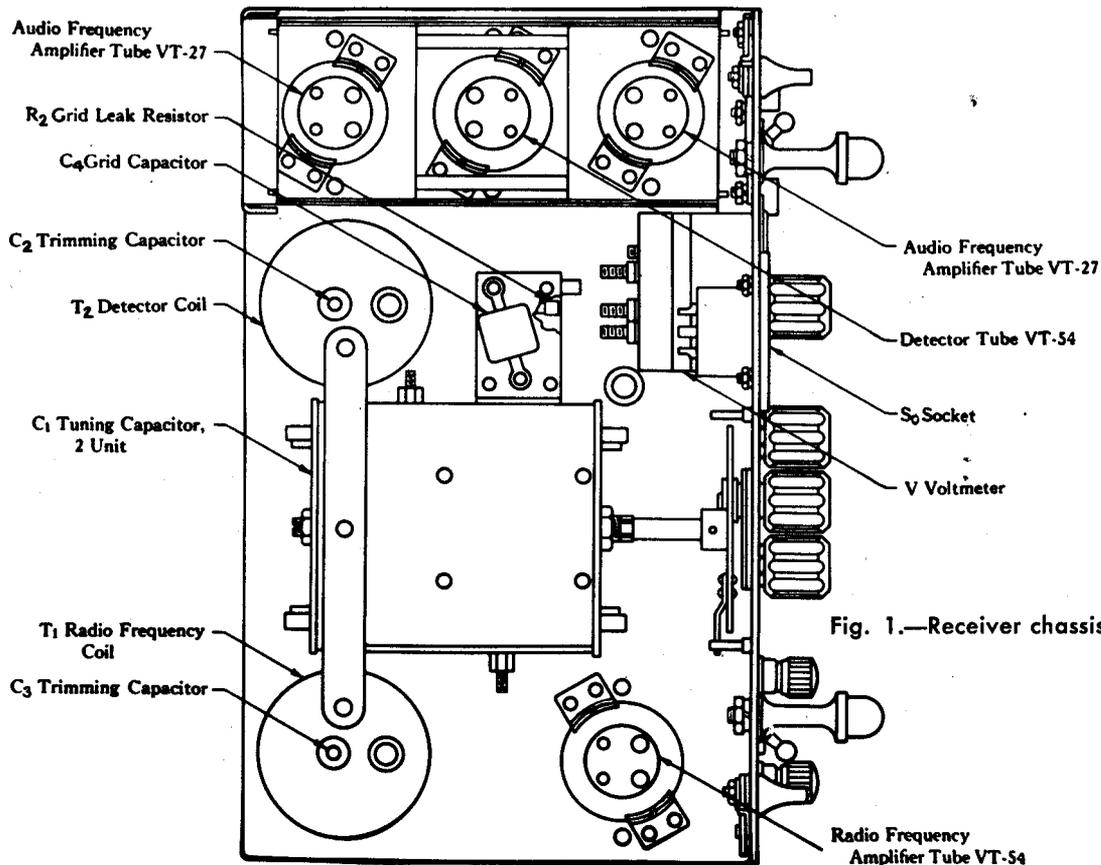

Fig. 1.—Receiver chassis, top.
**ALIGNMENT** : The radio frequency circuits of the receiver may be aligned on any incoming signal, but adjustment of the detector circuit requires an accurately calibrated signal generator. Set regeneration control at its optimum point (according to received signal). Set FREQUENCY dial at highest frequency and adjust the trimmer capacitor  $C_3$  (mounted inside the radio frequency coil shield) by turning the screw at the top of coil  $T_1$  (see fig. 1) for maximum signal. The adjustment of the detector